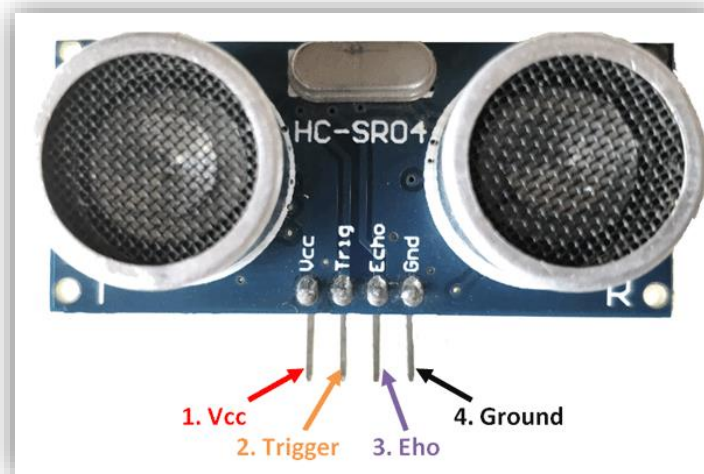

Figure 2.1.1: Ultrasonic Sensor HC SR04 Pin Diagram
Ultrasonic (US) sensor in **Figure 2.1.1** is a 4 pin module, whose pin names are Vcc, Trigger, Echo and Ground respectively. This sensor is a very popular sensor used in many applications where measuring distance or sensing objects are required. The module has two eyes like projects in the front which forms the Ultrasonic transmitter and Receiver. The sensor works with the simple high school formula that $\text{Distance} = \text{Speed} \times \text{Time}$ [1].